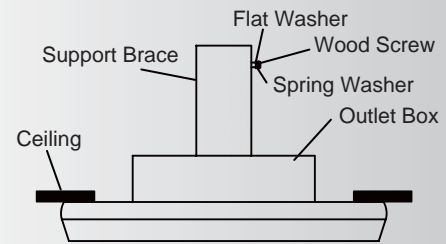

Fig. 11-1
Step 1. Attach the provided wood screw and washers to the ceiling joist next to the mounting bracket but do not tighten. (Fig. 11-1)